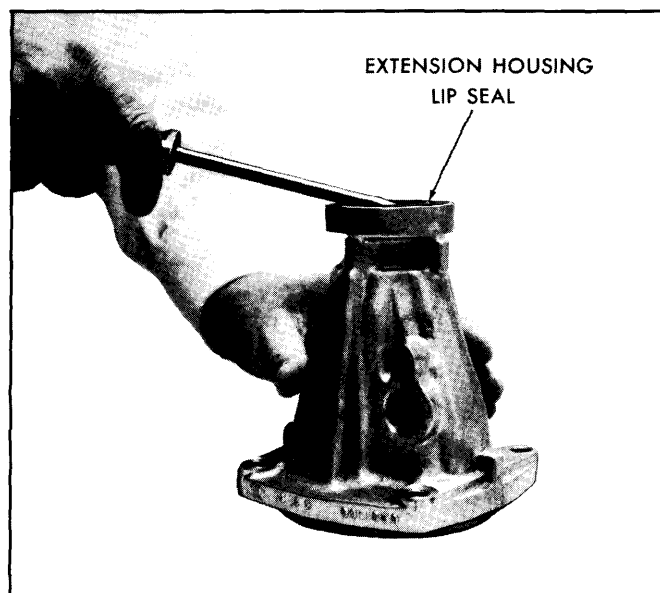

Fig. 7-12—Removing Extension Housing Lip Seal
3. Remove extension housing lip seal using screwdriver. (Fig. 7-12)